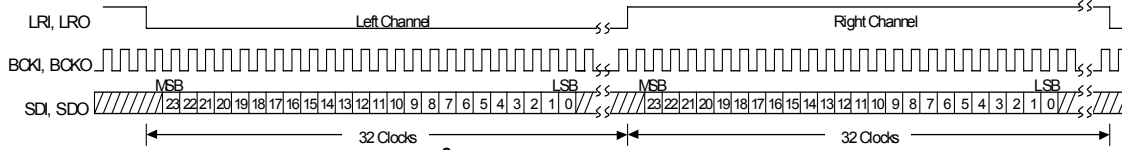
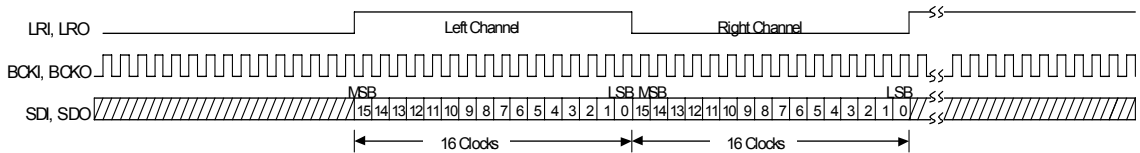

Fig.6-1 I²S Data Format 64fs, 24bit Data
Fig.6-12 Right-Justified Data Format 32fs, 16bit Data
The NJU26126 can use three kinds of formats hereafter as industry-standard digital audio data format; (1) I²S (2) Left-Justified (3) Right-justified and 16 / 18 / 20 / 24bits data length. (Fig.6-1 to Fig6-12)